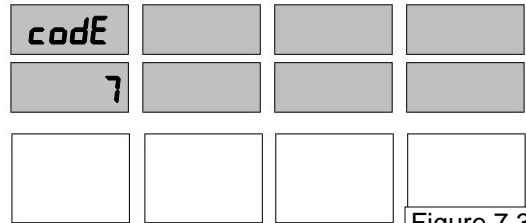

Figure 7.3
5. Once the **ENTER** button has been pressed, the number of Hoses appears in the main display. The default setting is for 2 hoses per side of the dispenser. See Figure 7.3.